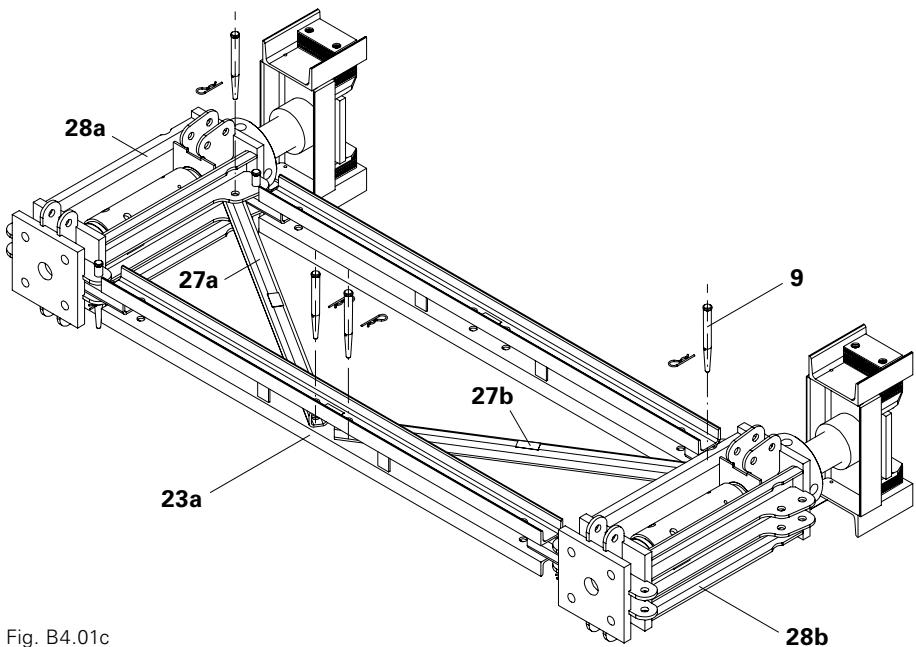

Fig. B4.01c
6. Connect the first Diagonal Strut VST 200/62.5 (27a) to the Head Spindle VST 100 (28a) using 1x Fitting Pin Ø 21 mm (9) and secure with Cotter Pin 4/1, galv.
7. Connect the first Diagonal Strut VST 200/62.5 (27a) to the Horizontal Ledger VST (23a) using 1x Fitting Pin Ø 21 mm (9) and secure with Cotter Pin 4/1, galv.
8. Connect the second Diagonal Strut VST 200/62.5 (27b) to the Head Spindle VST 100 (28b) using 1x Fitting Pin Ø 21 mm (9) and secure with Cotter Pin 4/1, galv.
9. Connect the second Diagonal Strut VST 200/62.5 (27b) to the Horizontal Ledger VST (23a) using 1x Fitting Pin Ø 21 mm (9) and secure with Cotter Pin 4/1, galv. (Fig. B4.01c)